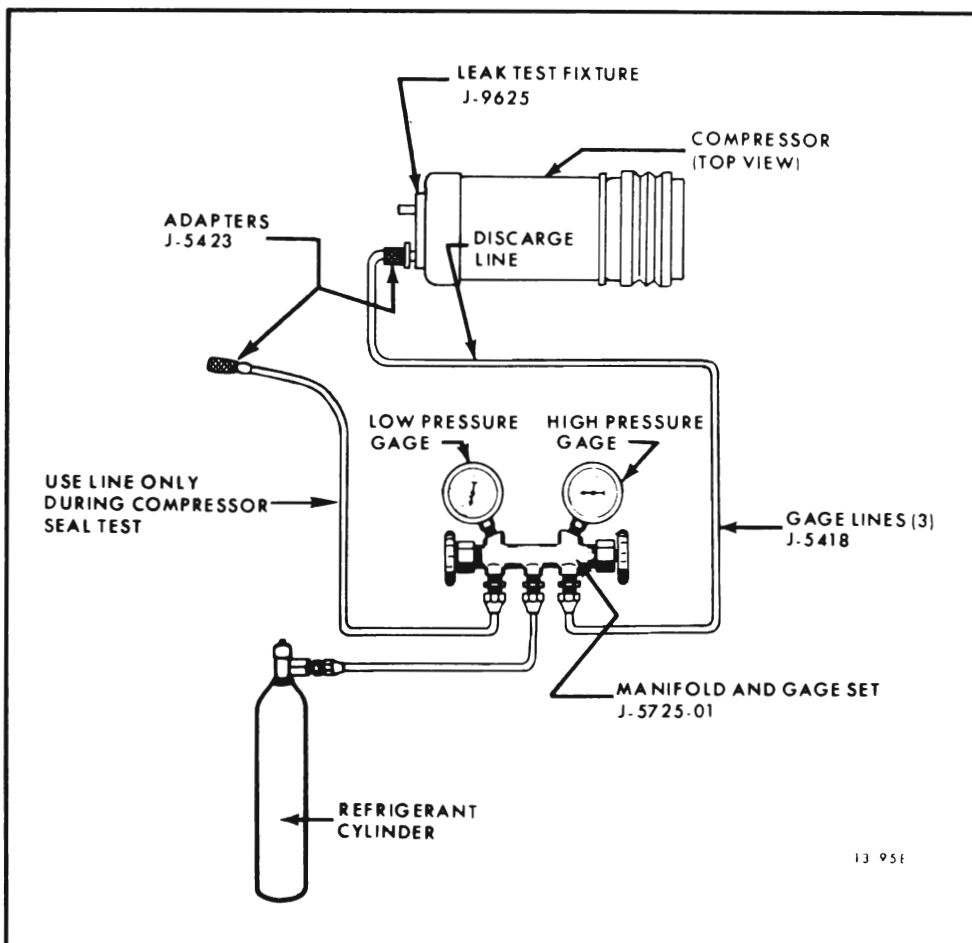

Figure 13-121 Compressor Internal Leak Test
1. After the shaft seal pressure test (ref. Par. 13-20, Step 6) has been performed, change the test circuit to the configuration shown in Figure 13-121.